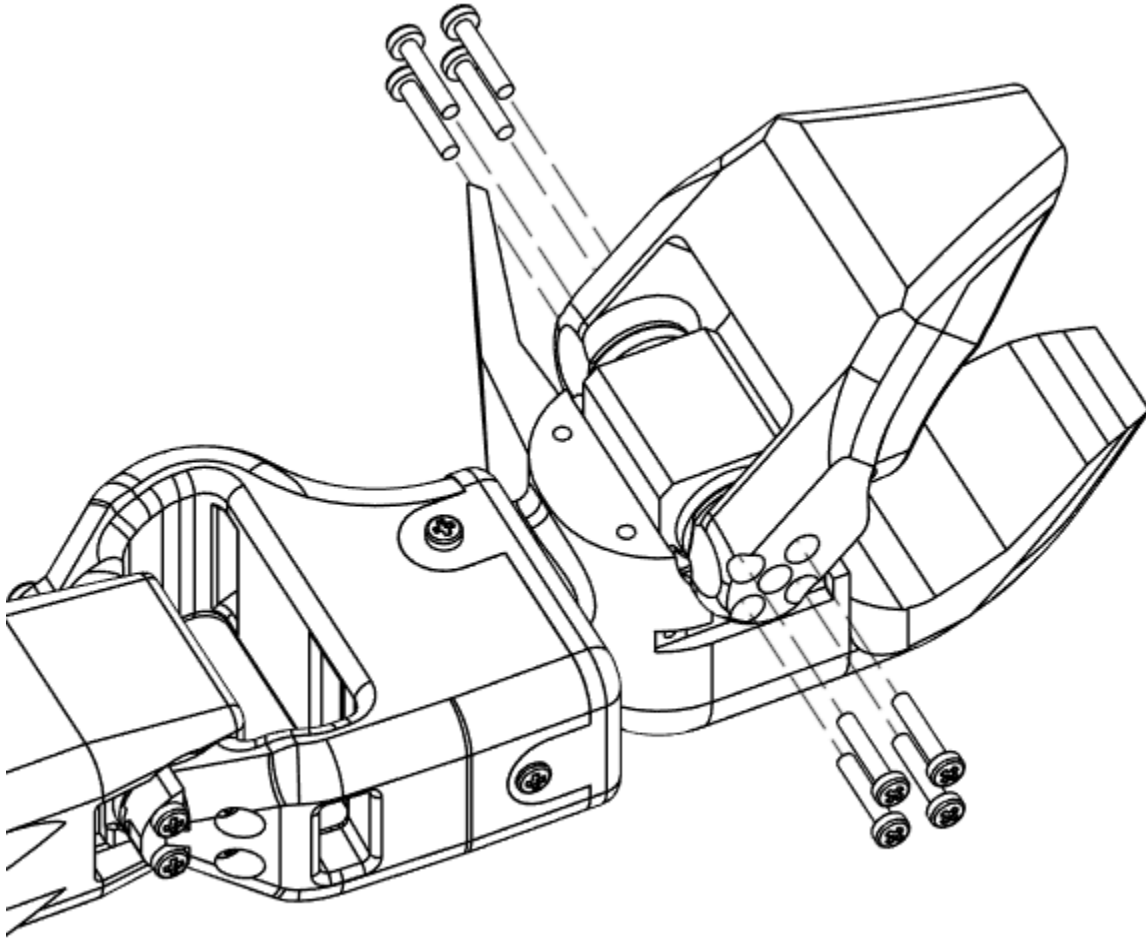
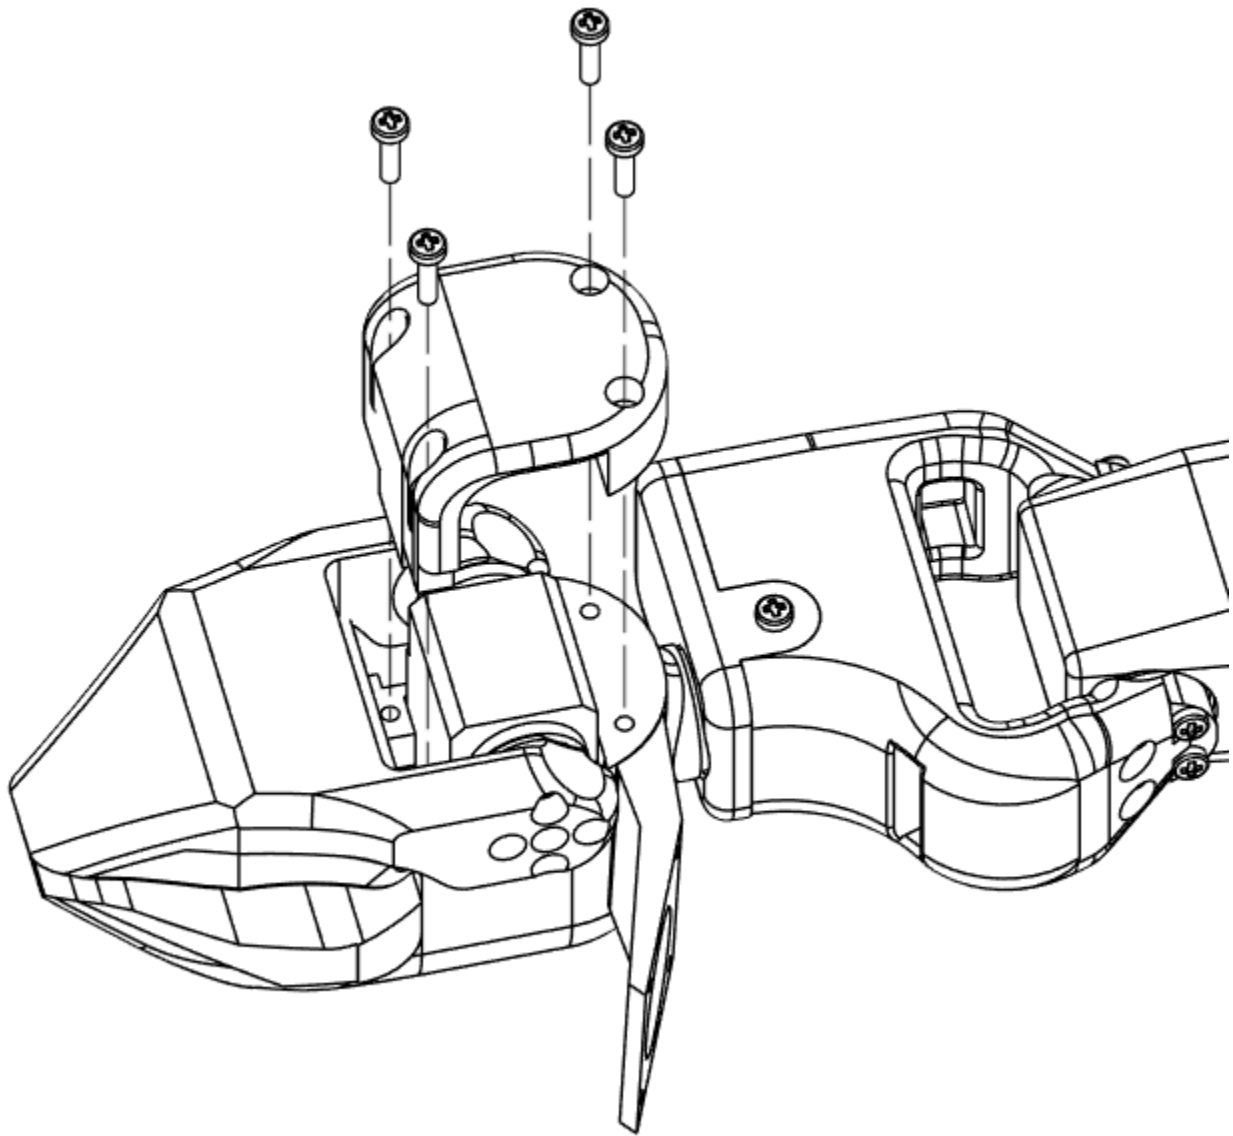
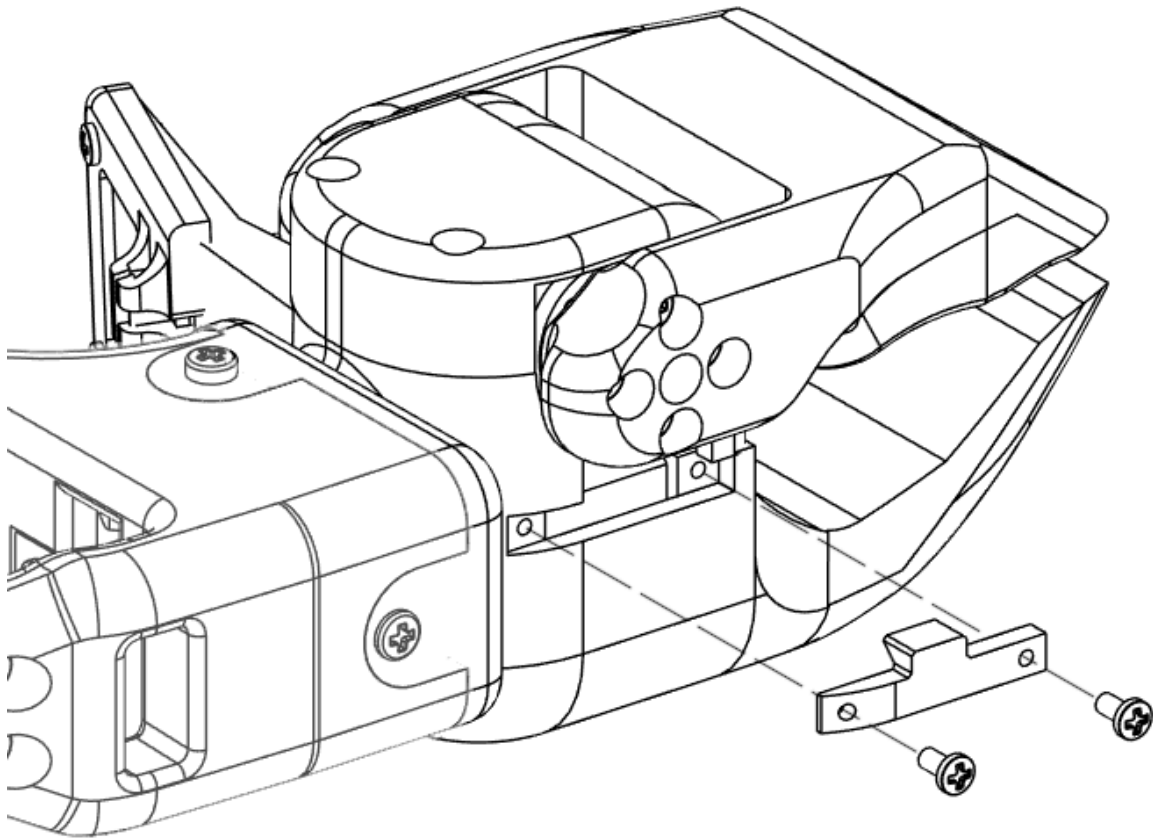

Figure 10.20 - Gripper Finger Assembly
Figure 10.21 - Motor 6 Support Assembly
Figure 10.22 - Motor 6 Wire Clip Assembly
21. Fasten Gripper Finger to Motor 6 as shown in Figure 10.20
- a. (8) M3x16mm
22. Fasten Motor 6 Support to Gripper Base as shown in Figure 10.21
- a. (4) M3x12mm
- 25.** Fasten Motor 6 Wire Clip to Gripper Base as shown in Figure 10.22
- a.** (2) M2x5mm
- c. NOTE:** Arm Wires are not shown in Figure 10.22